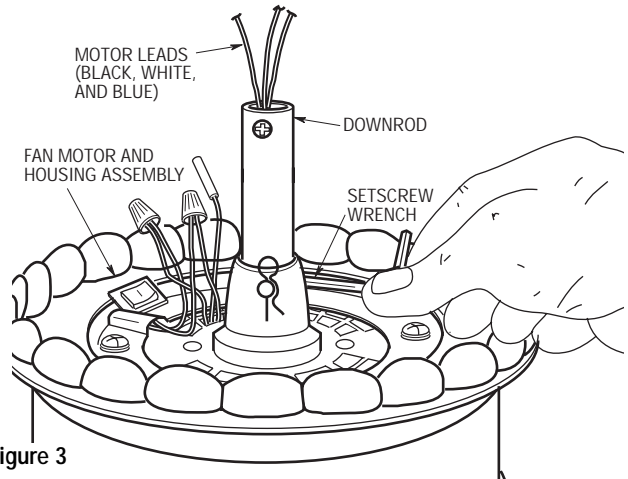

Figure 3
4. Align the clevis pin holes in the downrod with the holes in the motor coupling. Install the clevis pin and secure with the hairpin clip (Figure 3). (Pin and clip are supplied in loose parts bag.) The clevis pin must go through the holes in the motor coupling and the holes in the downrod. Push the straight leg of the hairpin clip through the hole near the end of the clevis pin until the curved portion of the hairpin clip snaps around the clevis pin. The hairpin clip must be properly installed to prevent the clevis pin from working loose. Pull up on the downrod to make sure the clevis pin is properly installed.
It is critical that the clevis pin in the motor coupling is properly installed and the setscrew securely tightened. Failure to verify that the pin and setscrew are properly installed (as shown in Figure 3) could result in the fan falling.
5. Install the setscrew (supplied) in the motor coupling (Figure 3). While pulling up on the downrod, tighten the setscrew using the setscrew wrench (supplied).